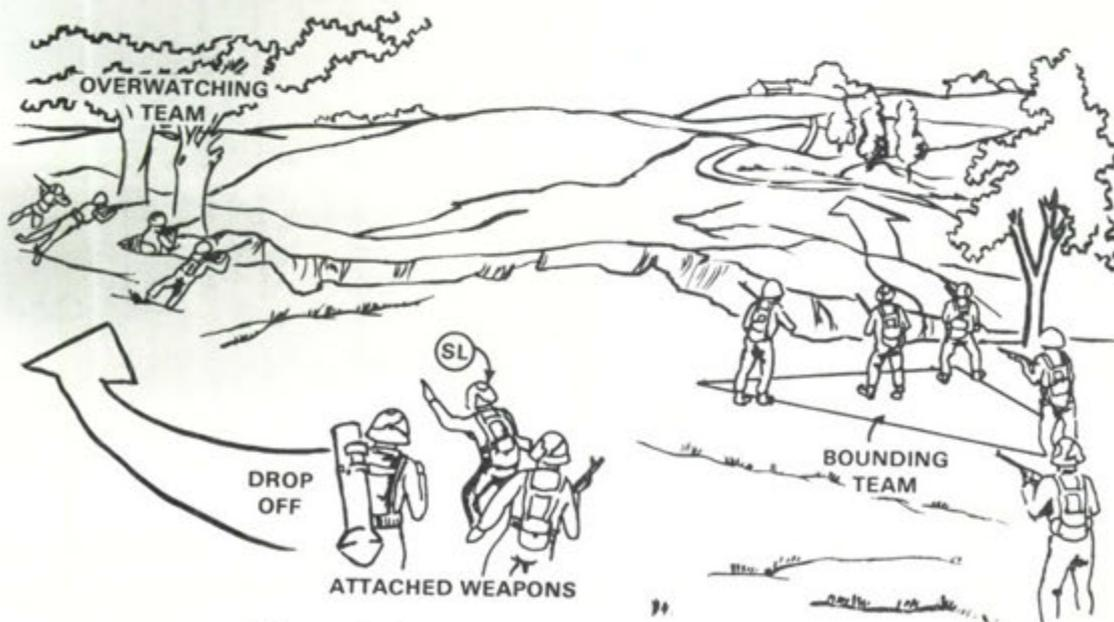

Figure 3. Bounding overwatch technique.
c. Use the **BOUNDING OVERWATCH** technique when contact is expected. One fire team advances while the other team is in a good position ready to suppress enemy fires. The key to this movement is the proper use of terrain. **ALL MEN IN THE SQUAD MUST MAKE USE OF ALL COVER AND CONCEALMENT.** The chance of exposure to the enemy must be avoided. A bound is normally not more than 100 to 150 meters forward of the overwatch team (figure 3).